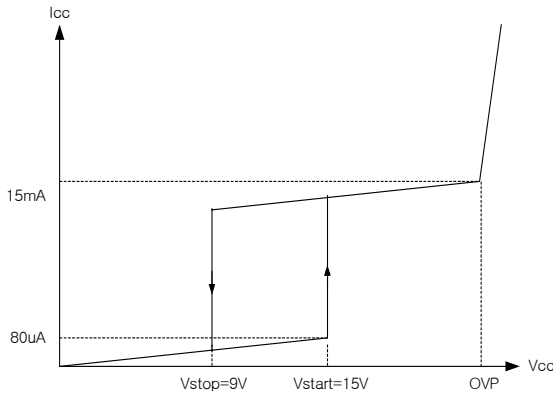

Figure 1. Start up with hysteresis
1. Start up : To guarantee stable operation of the control IC, FS8S0765RCB has UVLO circuit with 6V hysteresis band. Figure 1 shows the relation between the supply current (I_{cc}) and the supply voltage (V_{cc}). Before V_{cc} reaches 15V, the FPS consumes only startup current of $80\mu A$, which is usually provided by the DC link through start-up resistor. When V_{cc} reaches 15V, the FPS begins operation and the operating current increases to 15mA as shown. Once the control IC starts operation, it continues its normal operation until V_{cc} goes below the stop voltage of 9V